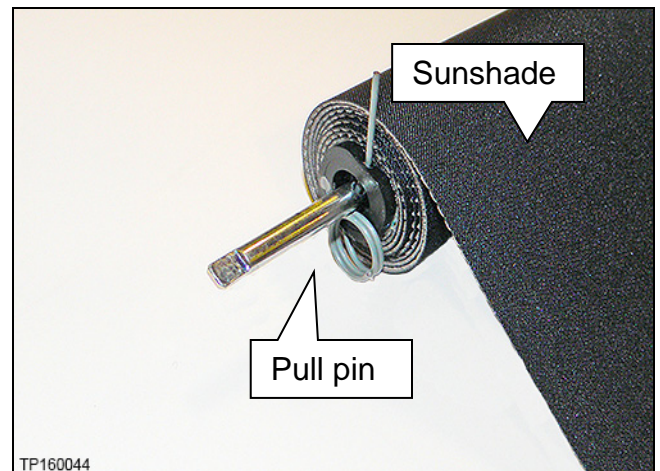

Figure 60
- f. Install the pull pin (Figure 60) into sunshade (a paper clip will also work).
- a. Gently remove the pull pin from the rear sunshade (Figure 60).
- a. Gently remove the pull pin from the front sunshade (Figure 60).